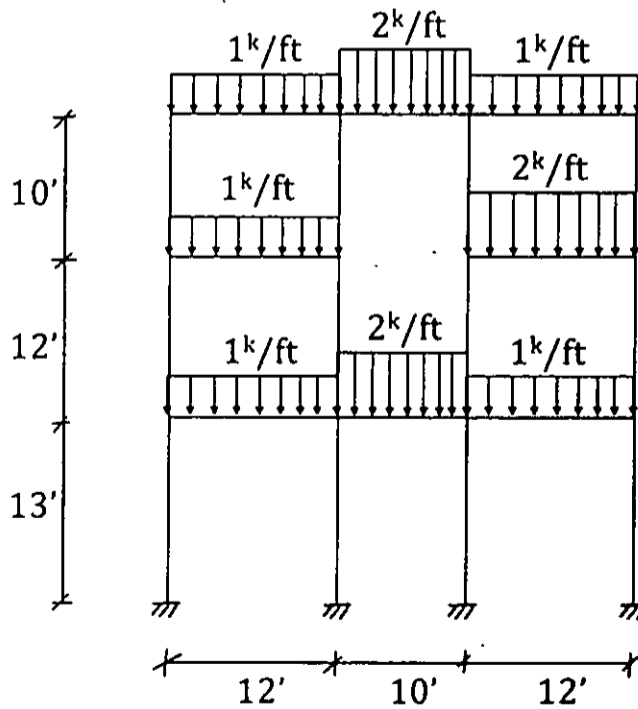

Figure 3.
3. For the multi-storied building frame under vertical loads as shown in Figure 3, using appropriate method of analysis, draw the shear force and bending moment diagrams for the beams and columns.